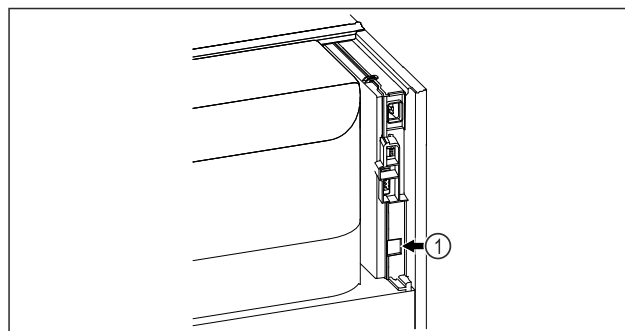

Fig. 138
- ☐ SmartModule *Fig. 138 (1)* is in use.